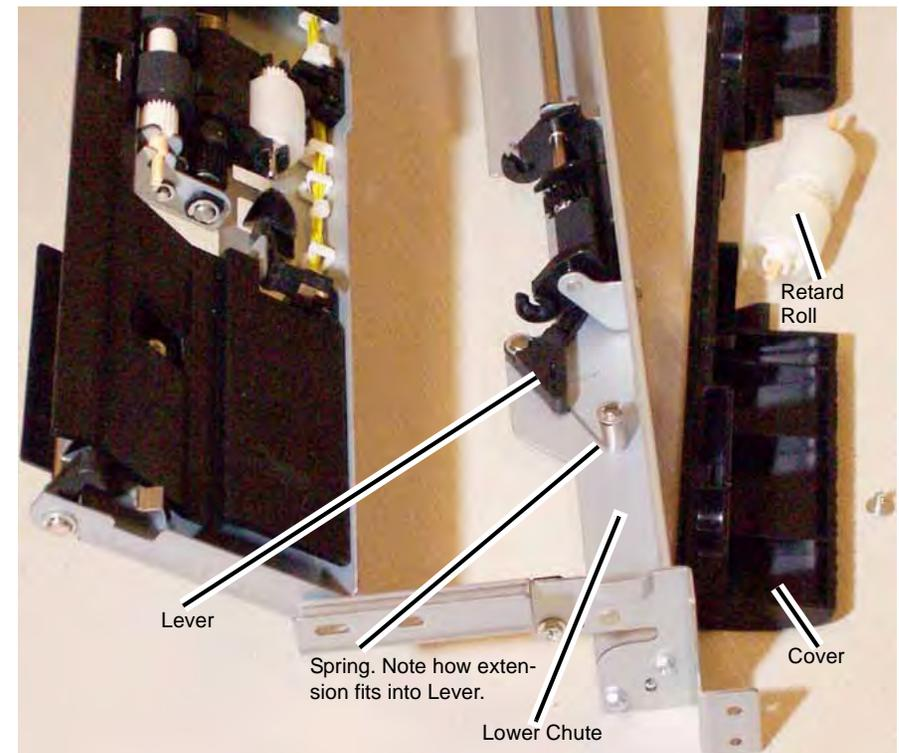

Figure 1 Removing the Retard Lever Spring
5. Remove the plastic Cover by removing (4) screws.
9. Remove the Spring (Figure 1).